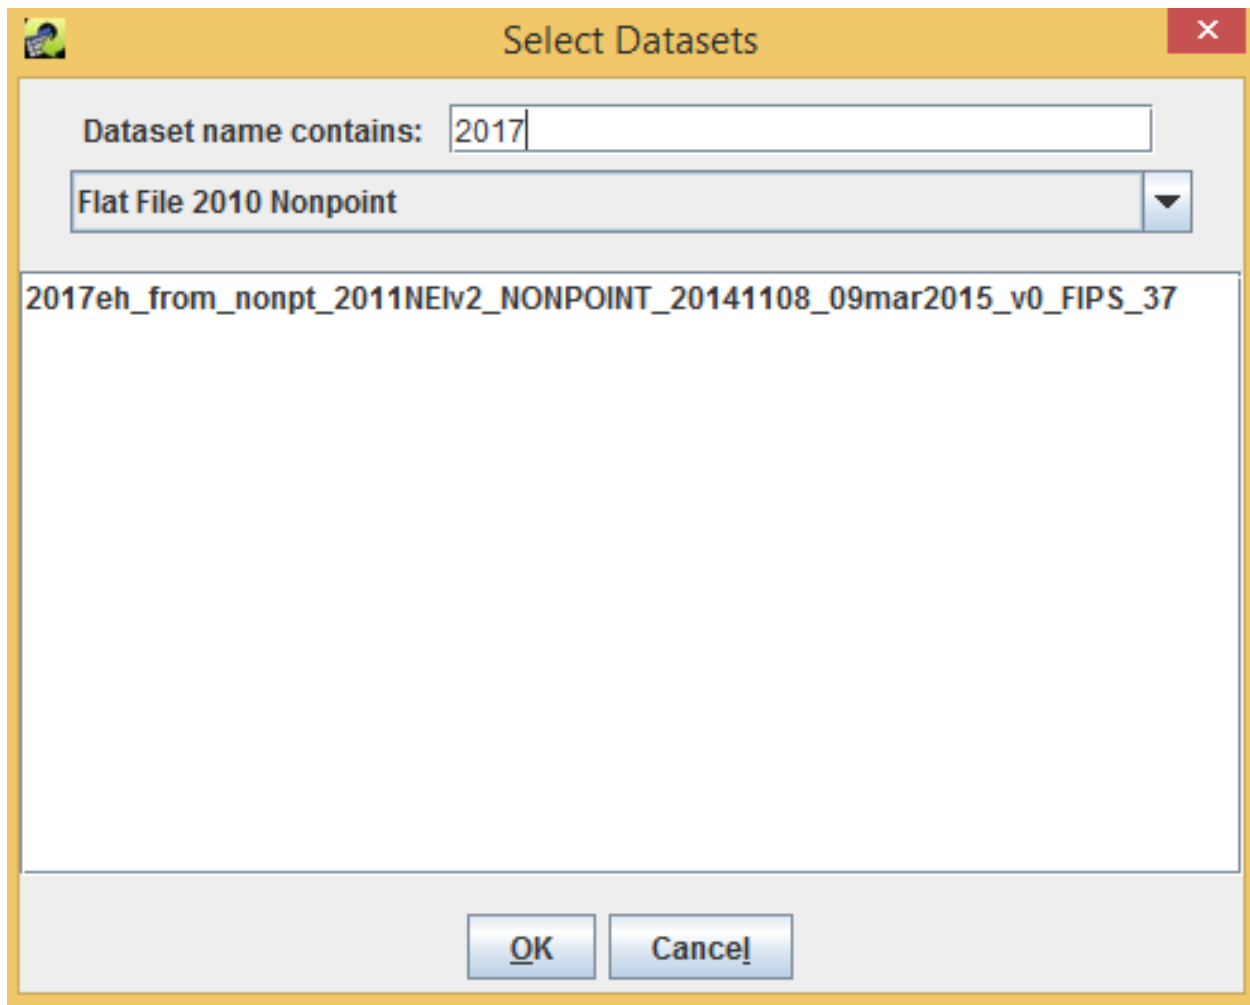

Figure 4.8: Selecting Inventory Datasets for a Control Strategy
Step 4-11: Add an Inventory to Control Strategy. To add one or more inventories to the **Inventories to Process** table for the control strategy, click the **Add** button on the **Inventories** tab. From the **Select Datasets** window that appears, use the **Choose a dataset** type pull-down menu to select the type of inventory to add (e.g., Flat File 2010 Nonpoint). The file browser will display the inventories of the specified type (Figure 4.8). If there are many inventories in the list, narrow down the list (e.g., to find inventories for 2017) by entering a search string in the **Dataset name contains** field and pressing the **Enter** key on your keyboard.